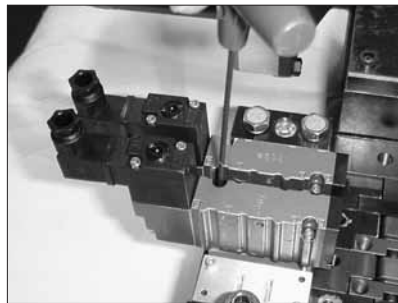

Figure 7-4 Replacing a solenoid valve
3. See Figure 7-4. Using a 2.5-mm hex wrench, remove the solenoid valve mounting screws and then remove the solenoid valve and its heat isolation gasket.